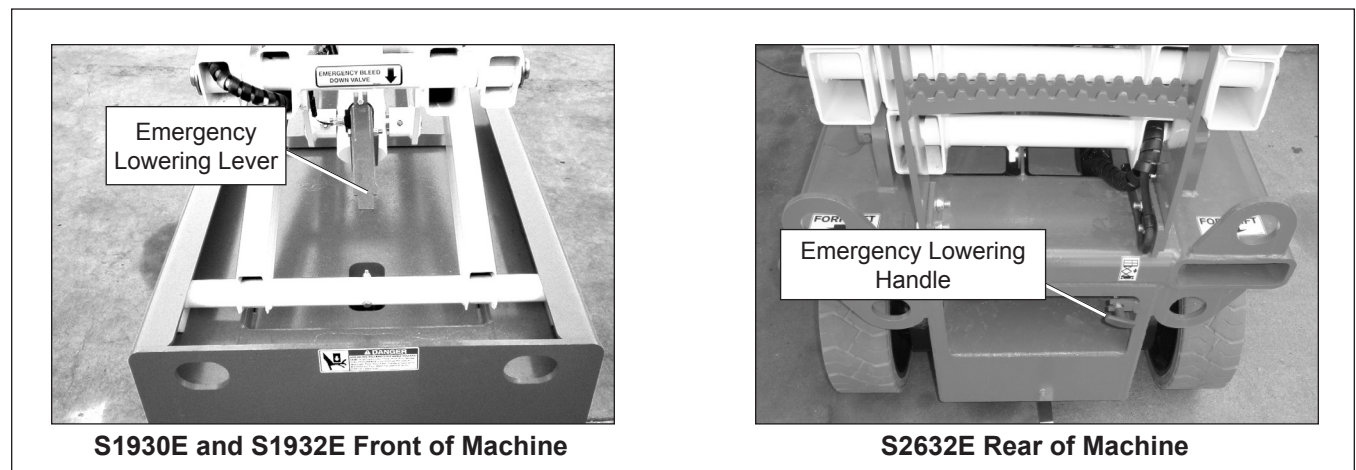

Figure 11.1 – Emergency Lowering Control
3. Locate the emergency lowering control. On S1930E and S1932E machines the lowering lever is at the front of the aerial platform. On S2632E machines a handle at the rear of the chassis is used for emergency lowering (refer to Figure 11.1).